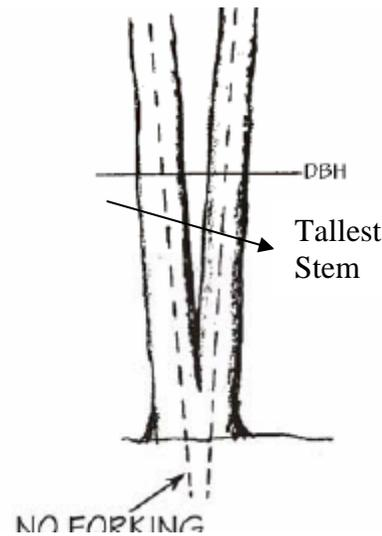

Fig. 3. Forking below DBH; measure tallest stem.
- On trees where forking is present below DBH, measurement is taken on the tallest stem. See Fig. 3.